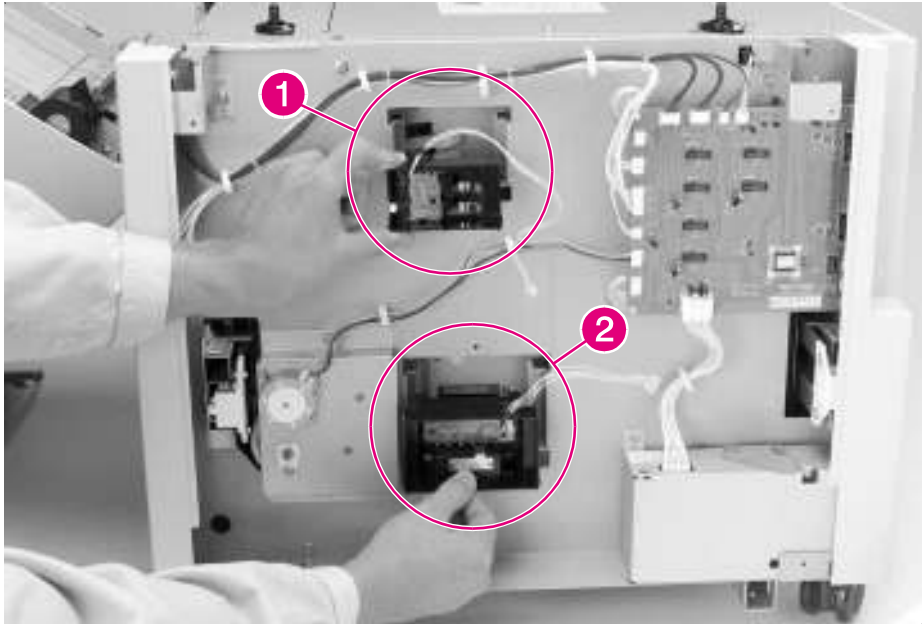

Figure 6-77 2000-sheet Input Tray Paper Size and Paper Quantity Switch Assemblies (2 of 2)
- 4 Pull the switch assembly out of its cavity (Figure 6-77, callout 1).
- 4 Pull the switch assembly out of its cavity (Figure 6-77, callout 2).